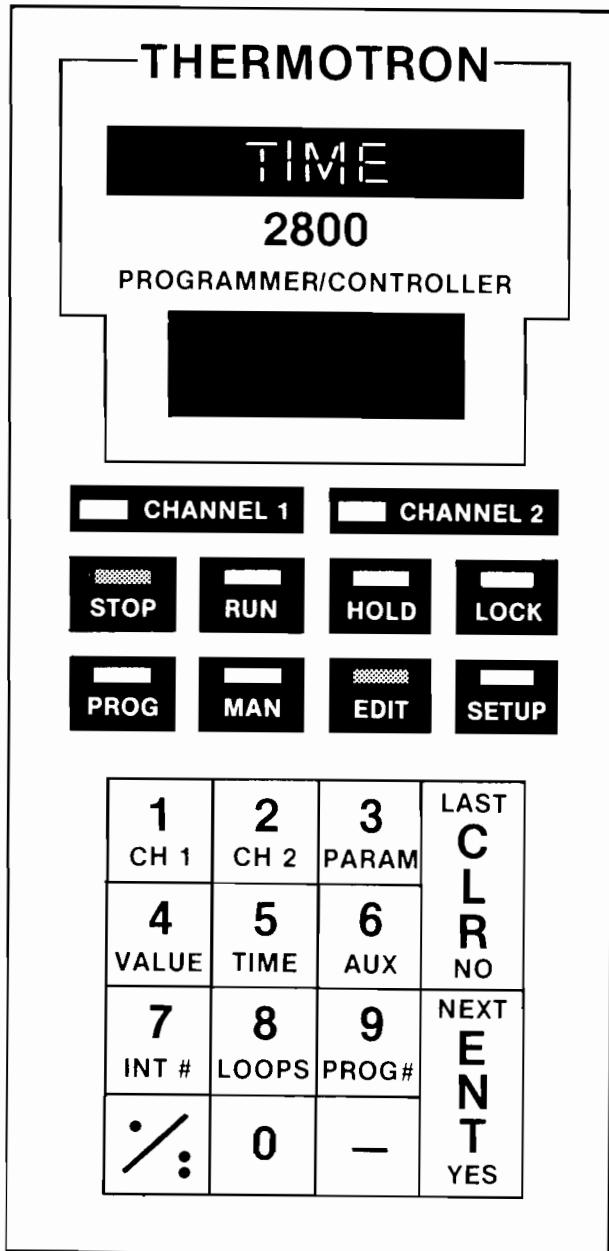

FIGURE 15
1. Press the numeric key 5. Press either the **CLR** (LAST) or the **ENT** (NEXT) key. The alpha display shows **TIME**. See Figure 15.